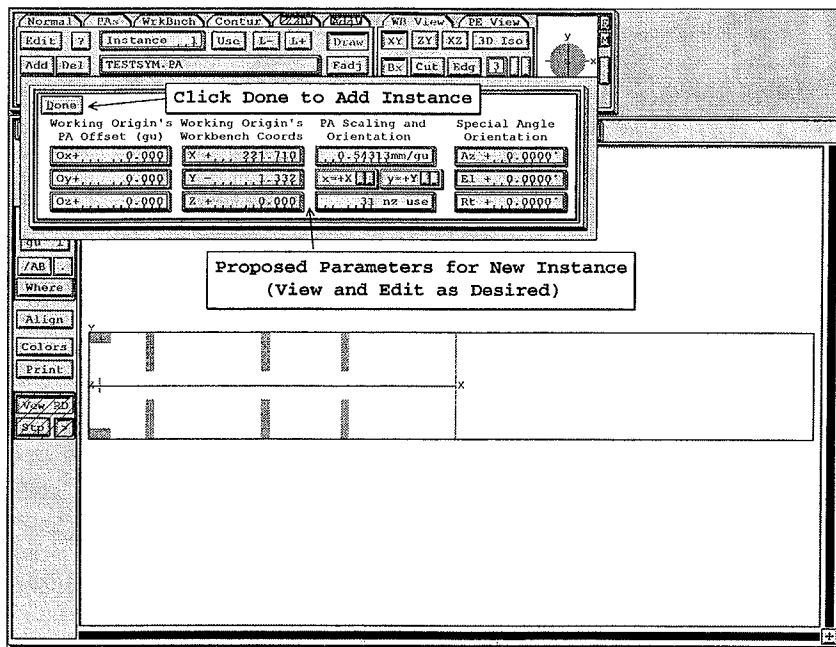

Figure 7-23 New instance parameter editing screen
3. You will now see an instance edit screen that contains the parameters that SIMION plans to use for the instance (Figure 7-23 below). Edit the values of these parameters as desired. Now click the **Done** button and the instance will be added to the end of the list (*as highest numbered instance = highest priority*).